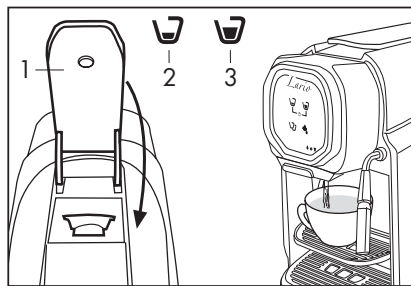

Fig. 10
- Completely close the lever (1), press a dispensing button (2-3-4) depending on the according to taste, and press it again to stop dispensing when the desired quantity of coffee or beverage is reached (Fig. 10). In case of difficulty in closing the lever, completely open it and close it again.
- To make a long coffee (Americano) press the delivery symbol (4)
- To extract the capsule, slowly lift the lever (1). If the capsule is not ejected, repeat the operation or press the dispensing symbol (2-3-4) and lift the lever (1) at the same time.